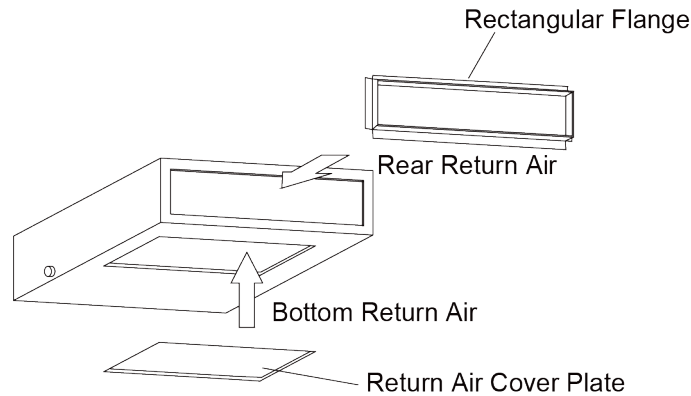

Fig 4.23
- (1) Square flange is defaulted to be fitted on the back before ex-factory. Air-return cover is on the bottom, as shown in Fig 4.23.